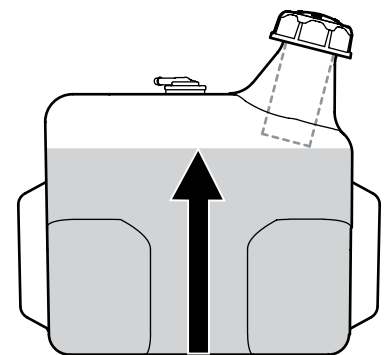

Figure 2-10
2. Fill the fuel tank with gasoline. Use only clean, fresh (no more than 30 days old), unleaded gasoline. Fill tank to no more than 1/2" below bottom of filler neck to allow space for fuel expansion. See Figure 2-10.
IMPORTANT: Do not overfill the tank. Fill tank to no more than 1/2" below bottom of filler neck to allow space for fuel expansion. See Figure 2-10.